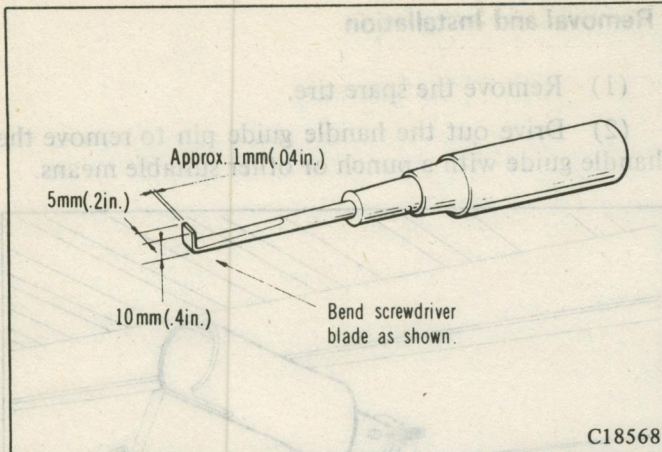

Fig. 27 Screwdriver with Bend Tip
(2) Using a screwdriver with a bent blade tip as shown in Fig. 27, insert it in the moulding groove in the weatherstrip, and spread the weatherstrip. NOTE: Start spreading the weatherstrip at the position of the moulding joint.